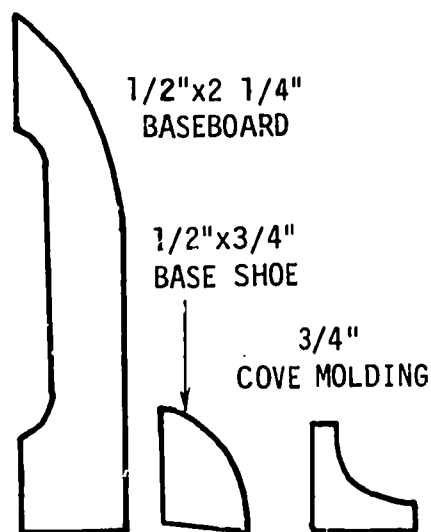
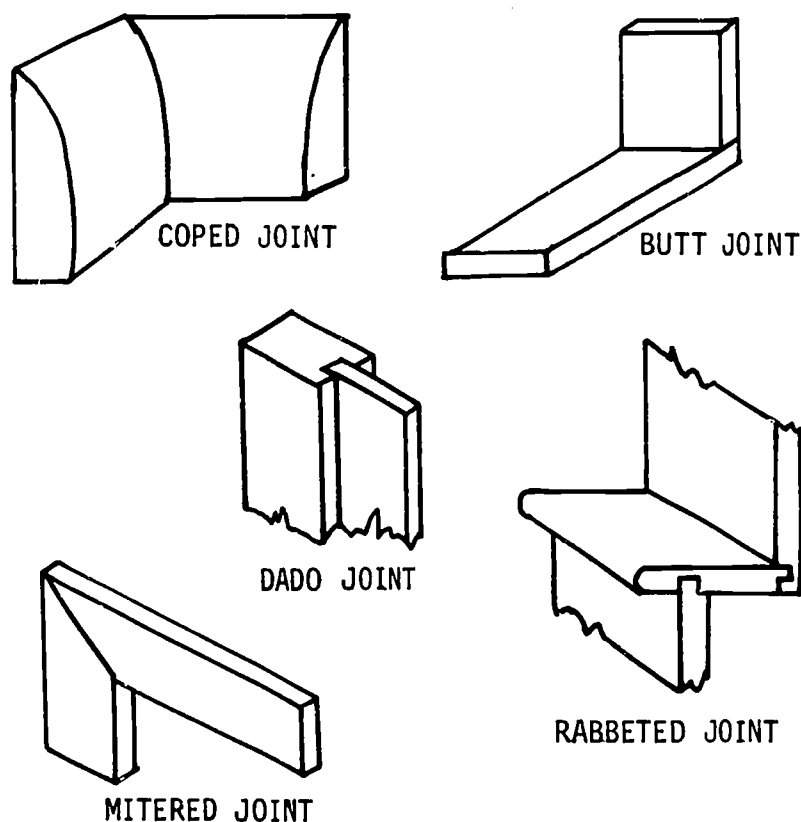

Fig. 123-1. Moldings
Fig. 123-2. Joints and Trim
* See Fig. 123-1.
1. Explain that various types of joints are used for trim work. The choice depends on the type of material and where it is used. See Fig. 123-1. Show Transparency 123-1, Joints, and discuss the five kinds of joints. See Fig. 123-2.